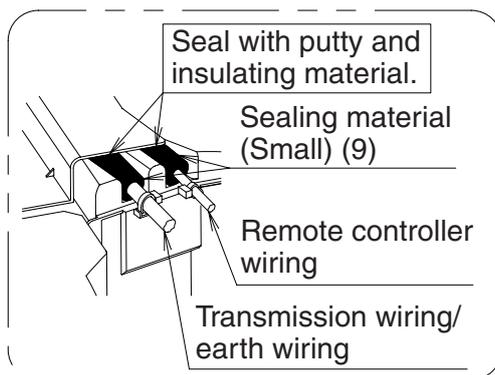

Fig. 39
- Cut the sealing material (Small) (9) into two pieces and wrap each wiring with each piece. **(Refer to Fig. 39)**